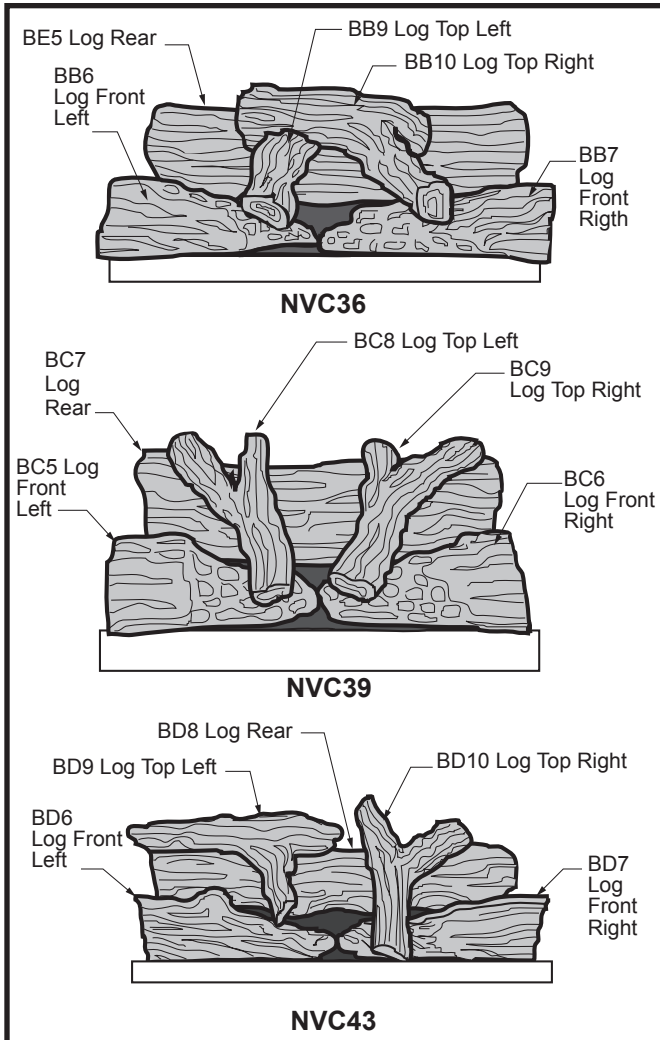

Fig. 12 Log locations.
To remove the louvre top assembly, lift louvre up and then out. (Fig. 12) The louvre bottom assembly is hinged at the bottom edge and swings down.
6. Place the top logs onto the locator notches. Ensure that the logs are secure. (Fig. 12)